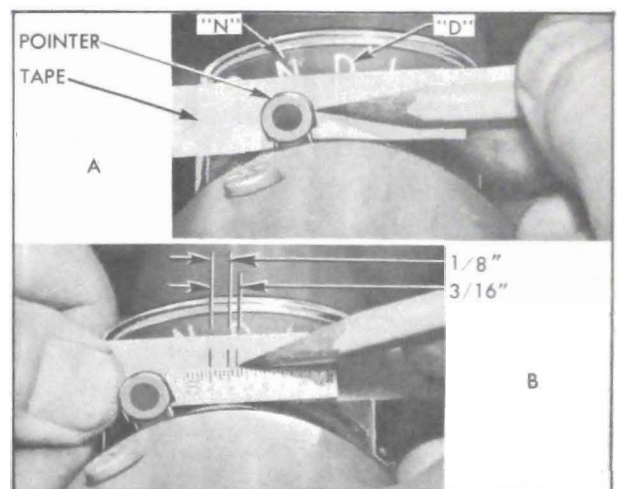

Figure 10-30—Marking Tape for Checking Switch Timing
5. With transmission control firmly engaged in Neutral detent, make a pencil mark on masking tape at right edge of speed ratio dial pointer, then make two marks on tape at $\frac{1}{8}$ " and $\frac{3}{16}$ " to right of the first mark. See figure 10-30.
6. Move control lever to driving (D) position, turn ignition on and depress accelerator pedal to close accelerator vacuum switch.